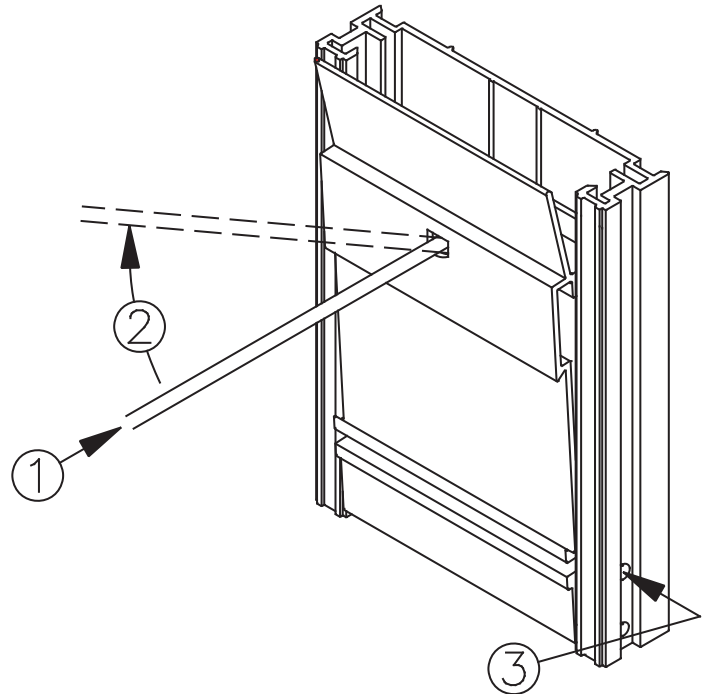

Figure 4: Resetting the manual station
2. Close the handle and at the same time, move the handle of the screwdriver up. See Figure 4.
3. Insert the plastic rod (break glass) into the hole on the right side. See Figure 4.